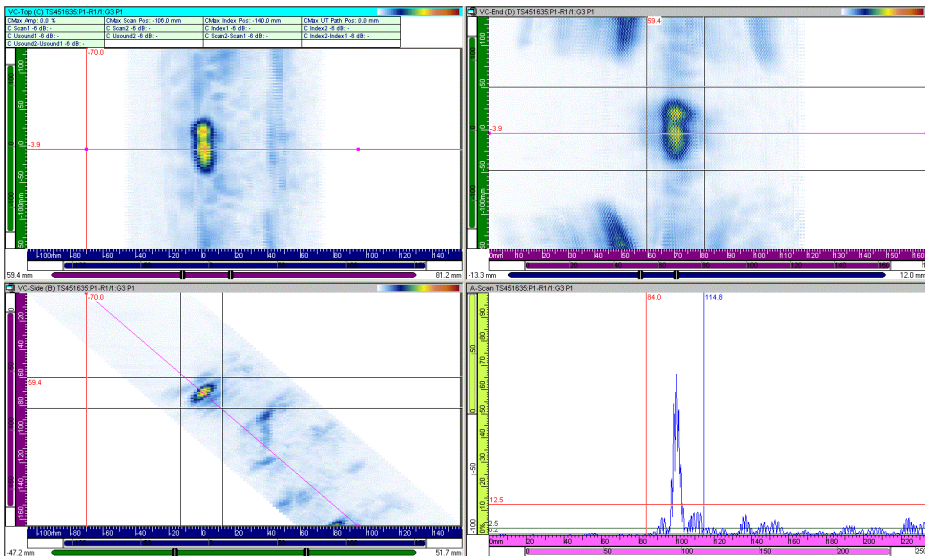

Figure 7-11 Data display examples
3. Visualize the region of interest in the considered recorded data (see Figure 7-11 on page 347).